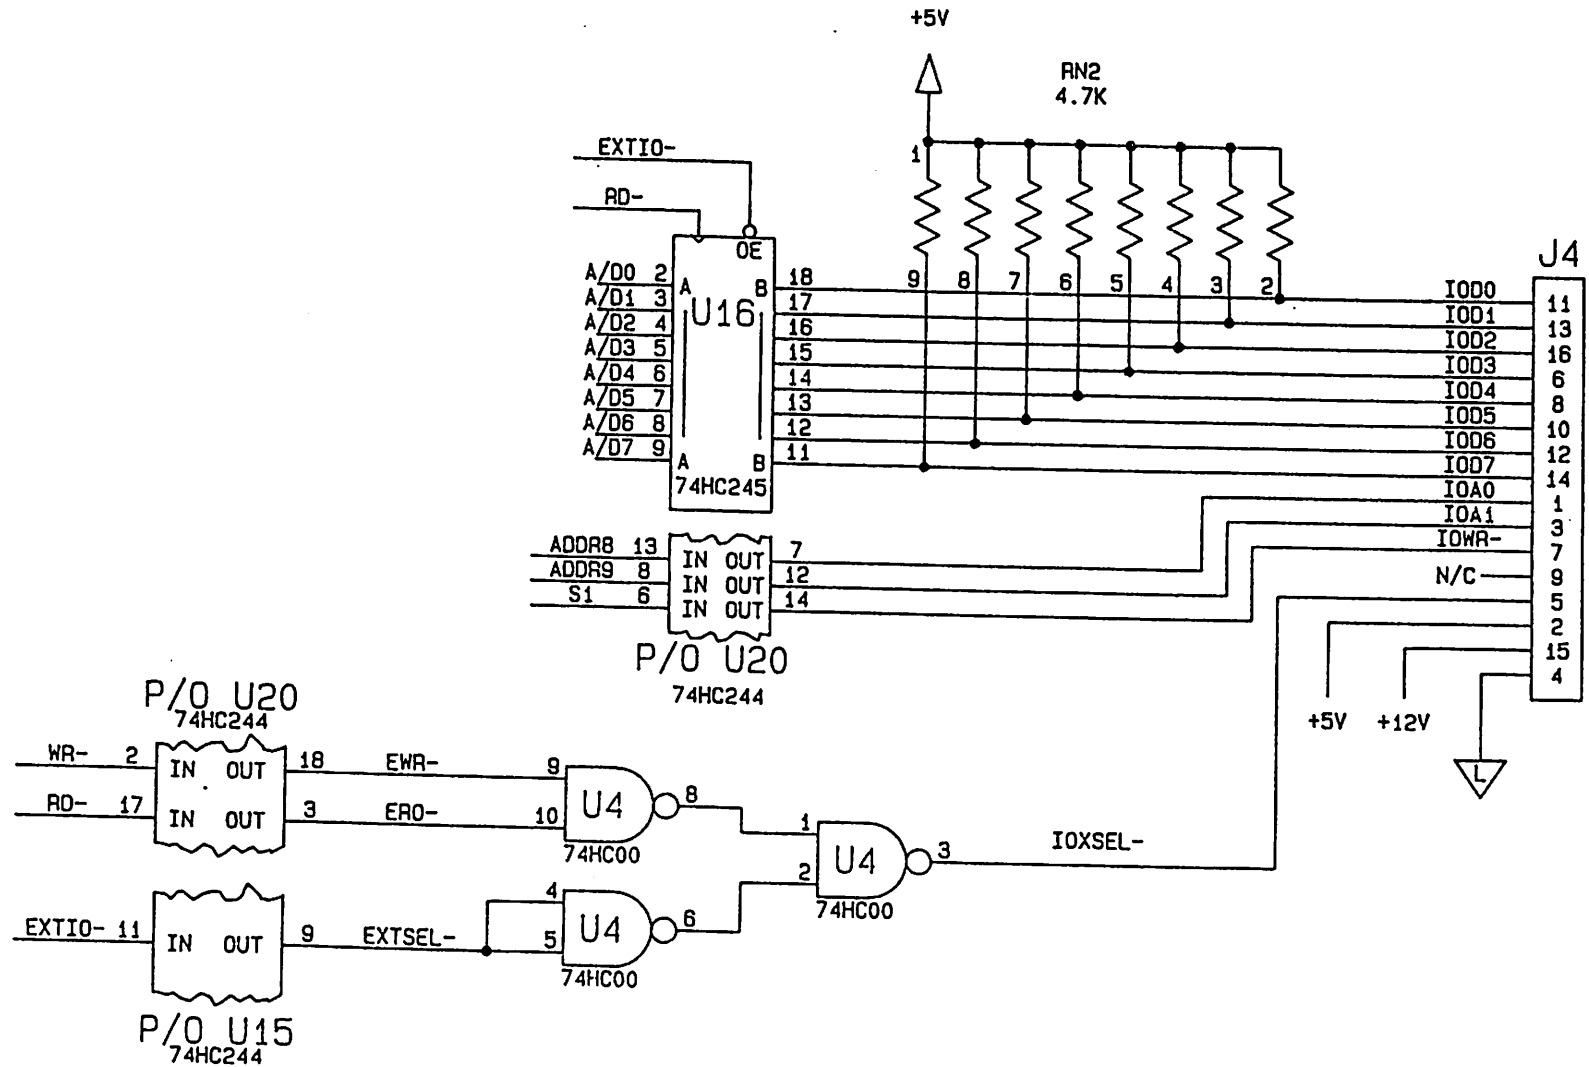

Figure 3-39. CIM Interface
3.11.1 CIM Interface (figure 3-39)